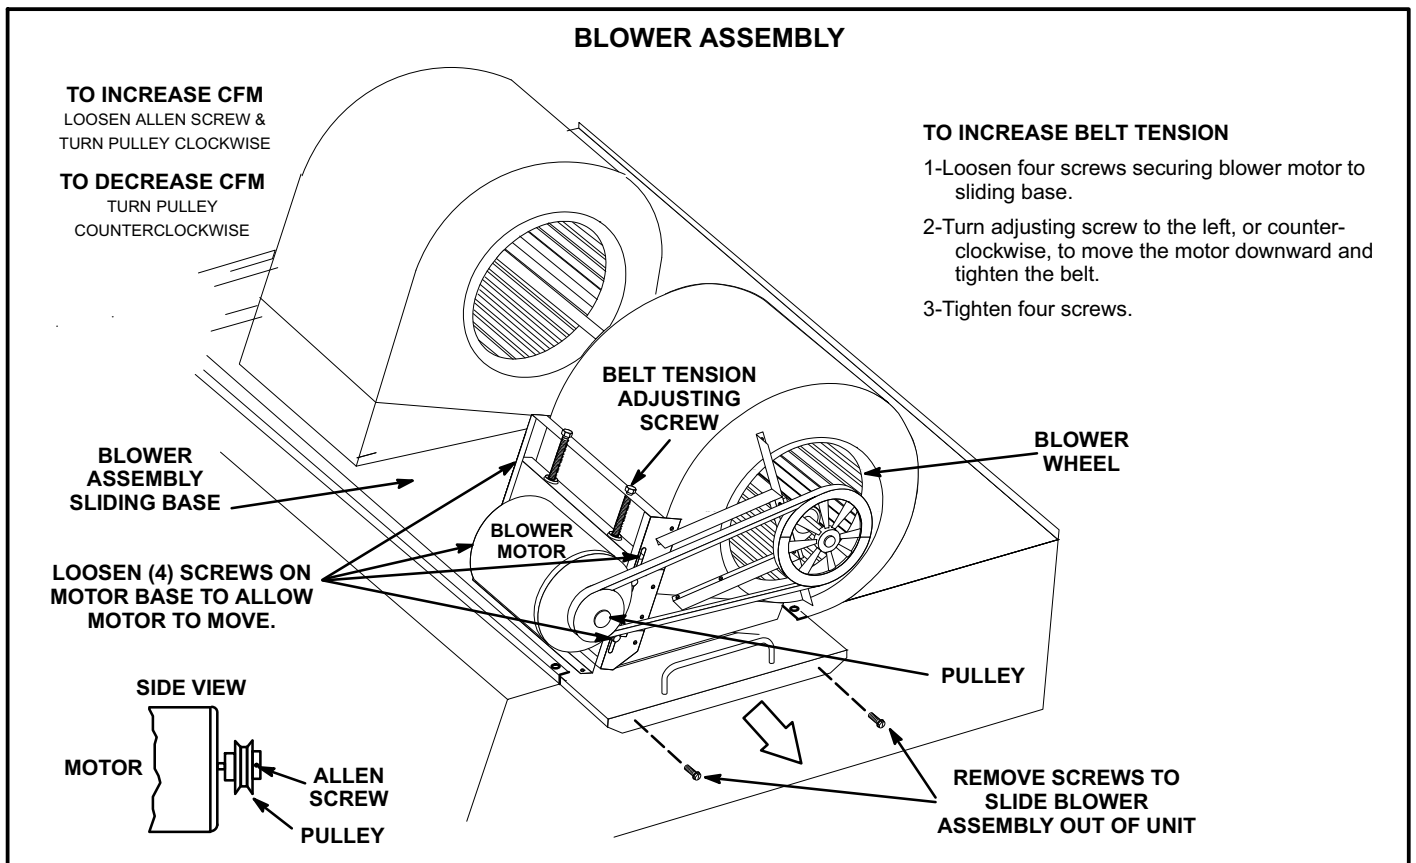

FIGURE 9
The blower compartment in KCA156H-300 units is located between the evaporator coil and the compressor / control section on the opposite side of the condenser coil. The blower assembly is accessed by removing the screws on either side of the sliding base. The base pulls out as shown in figure 9.
The blower assembly is secured to a sliding base which allows the entire assembly to be pulled out of the unit. See figure 9.
- 5- The RPM can be adjusted at the motor pulley. Loosen Allen screw and turn adjustable pulley clockwise to increase RPM. Turn counterclockwise to decrease RPM. See figure 9.
- 1- Loosen four bolts securing motor base to mounting frame. See figure 9.